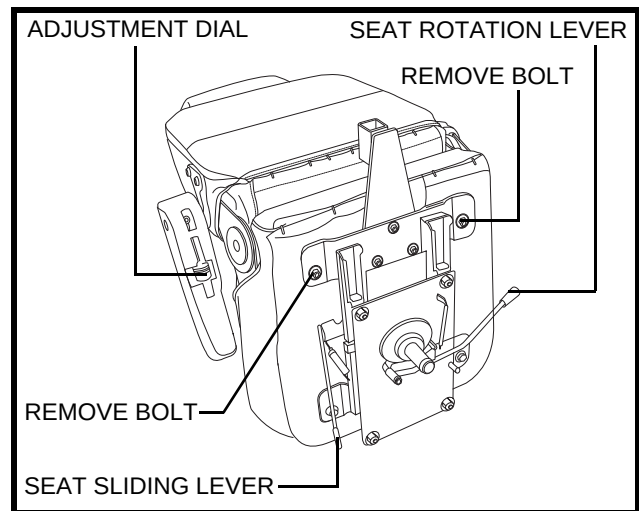

Figure 18. Seat Position Adjustments
1. Push forward on the seat rotation lever to disengage the seat. **See figure 18.**
1. Move the seat sliding lever located at the lower left side of the seat outward. **See figure 18.**
There is an armrest adjustment dial on the underside of each armrest. **See figure 18.** Turn the armrest adjustment dial to the left to lower the armrest angle or to the right to raise the armrest angle.